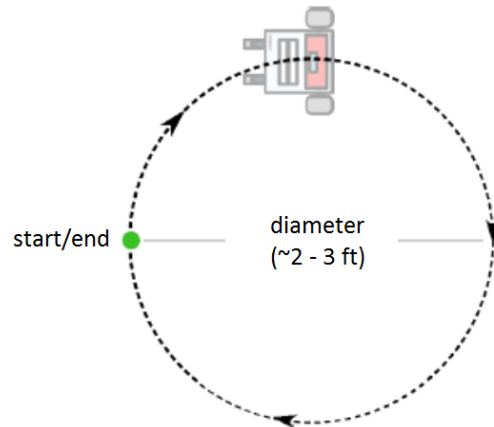

Figure 8: Circle Robot Motion
Part V – Circle and Figure 8
1. Write a "Circle" program to move the robot in a circle with a diameter between 2 and 3 feet (see Figure 8). You should call the Circle() function from the void loop() function on a button push.
4. Once again try to adjust the tuning factors so that the robot passes through the same center point of the figure 8 each time. You should call the Circle() function twice to create the FigureEight() function. This means you may need to modify the Circle() function pass it a direction variable.